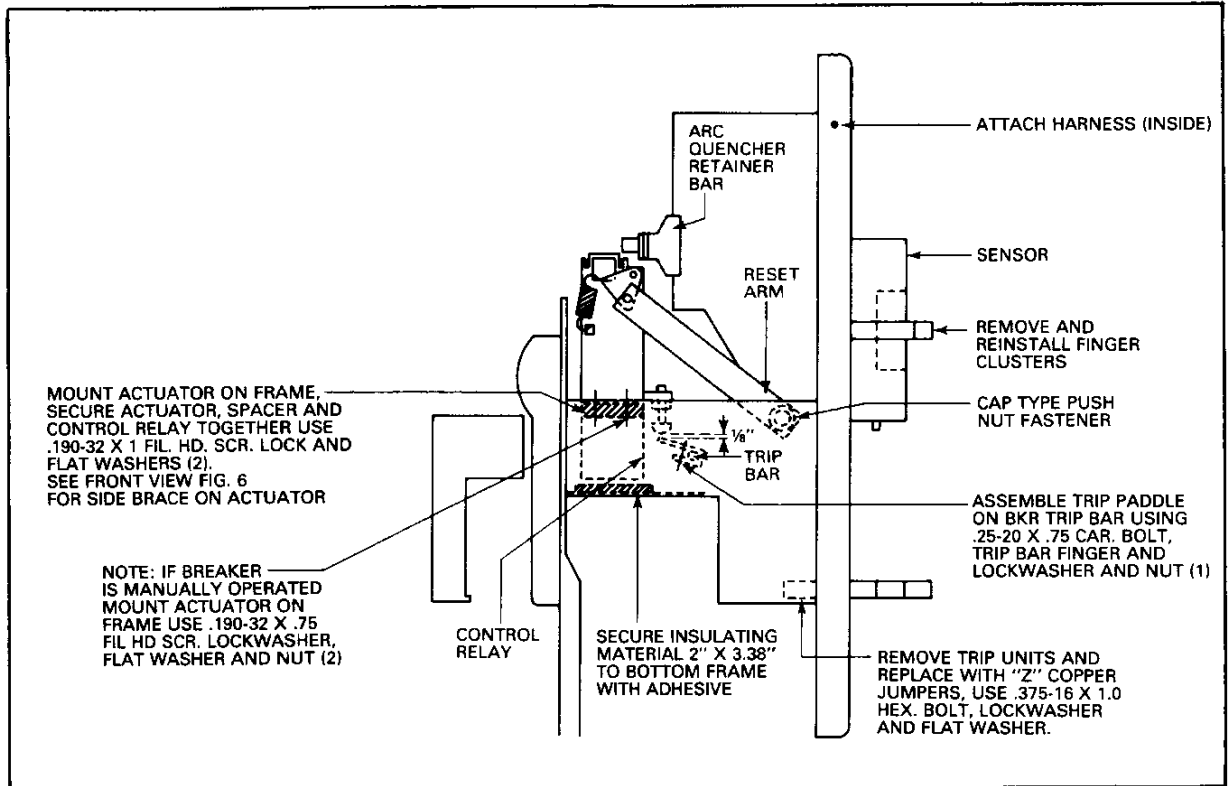

Fig. 5
Step 2: Assemble trip paddle on breaker trip bar using .25-20 x .75 carriage bolt, trip bar finger and elastic nut, do not tighten nut. Fig. 5.
Step 3: Position the actuator above the holes that held the control relay, slide the bottom of the reset arm on the .50 shaft on the right side of breaker, and attach the cap type push nut fastener, Fig. 5.
Step 4: Place the insulating material 2" x 3.38" under the terminals of the control relay. Secure with an adhesive, Figs. 5 and 6.
Step 5: Position the 1/2" x 1 1/8" spacer beneath the holes under the actuator. Slide the control relay over so that the holes match those of the spacer. Fasten the actuator, spacer and control relay with the .190-32 x 1.0 fil. hd. scr. and washers, Figs. 5 and 6.
If the breaker is to be manually operated Steps 4 and 5 are not required. Secure actuator to frame with .190-32 x 1.0 fil. hd. scr. washer, lockwasher and nuts, see Fig. 5.
Step 7: Move the assembled trip paddle to line up directly under the trip adjustment screw on the actuator. Spacing between the trip paddle and trip adjustment screw is approximately 1/8" with breaker in closed position, Fig. 5.